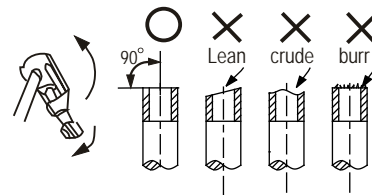

Fig.9-1
- Cut a pipe with a pipe cutter. (Refer to Fig.9-1)